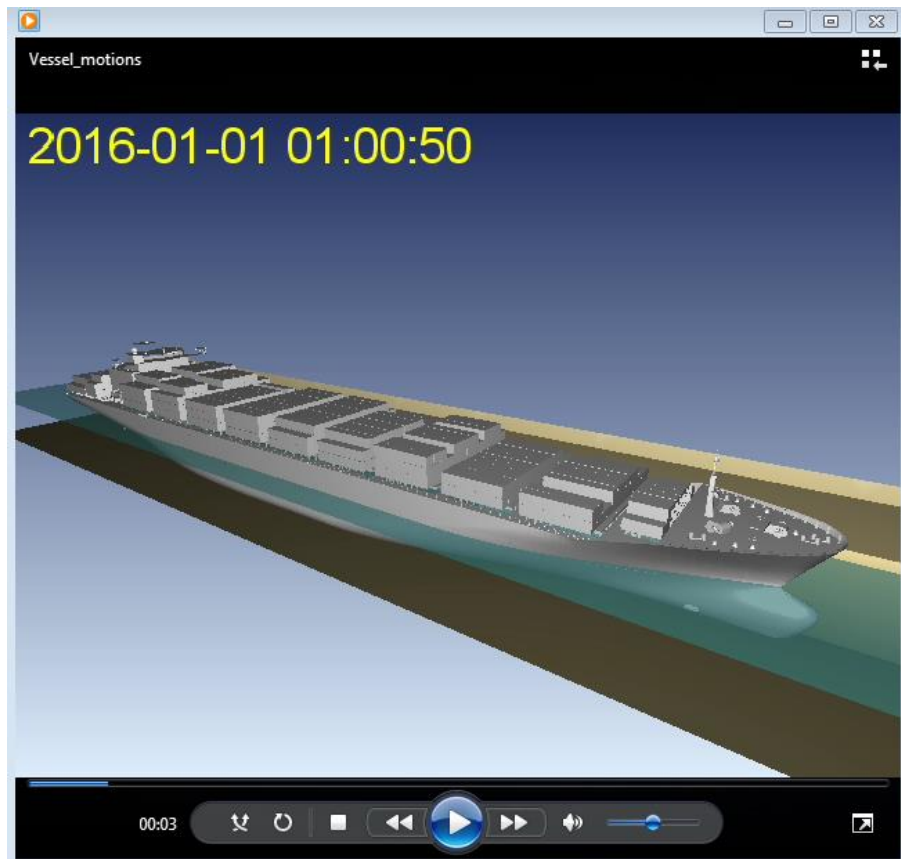

Figure 2.42 Recorded animation as shown in Windows Media Player
16. The resulting animation file **Vessel_Motions.avi** can now be shown in e.g. Windows Media Player as shown in Figure 2.42.